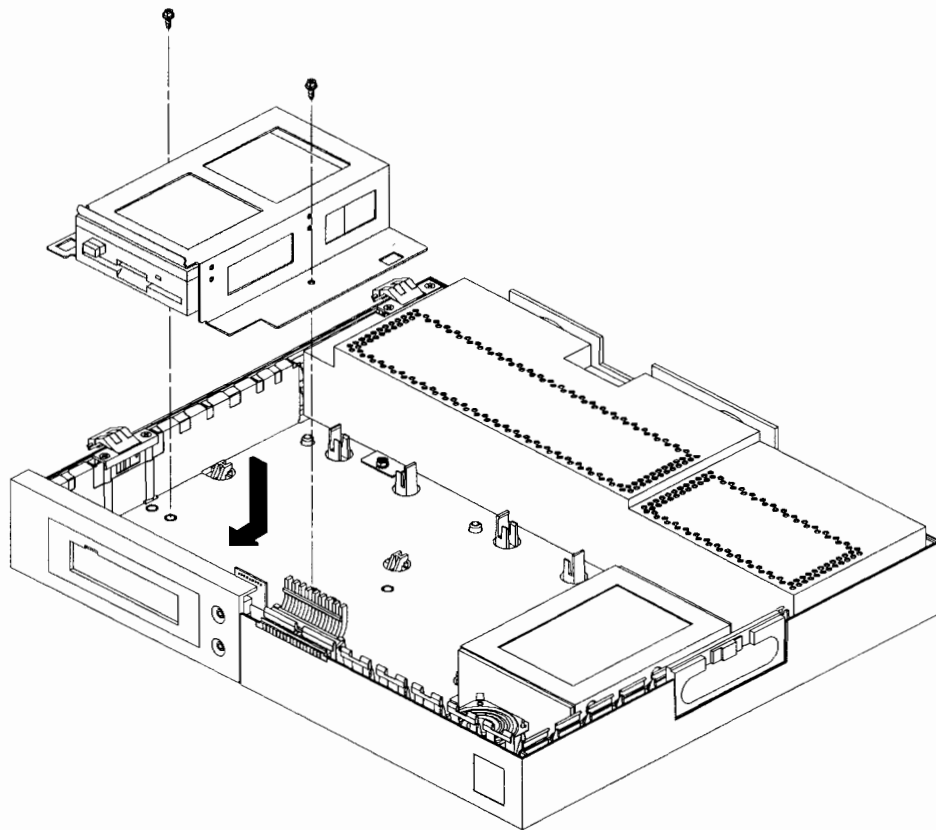

Figure B-11. Mounting the Floppy Disk Drive Assembly
7. Place the floppy drive assembly into the system unit so that the mounting posts line up with the cutouts in the floppy drive's mounting bracket. Slide the floppy drive assembly forward. Secure the floppy drive assembly with the two mounting screws that came in the kit using a #2 Phillips screwdriver, as shown in Figure B-11.